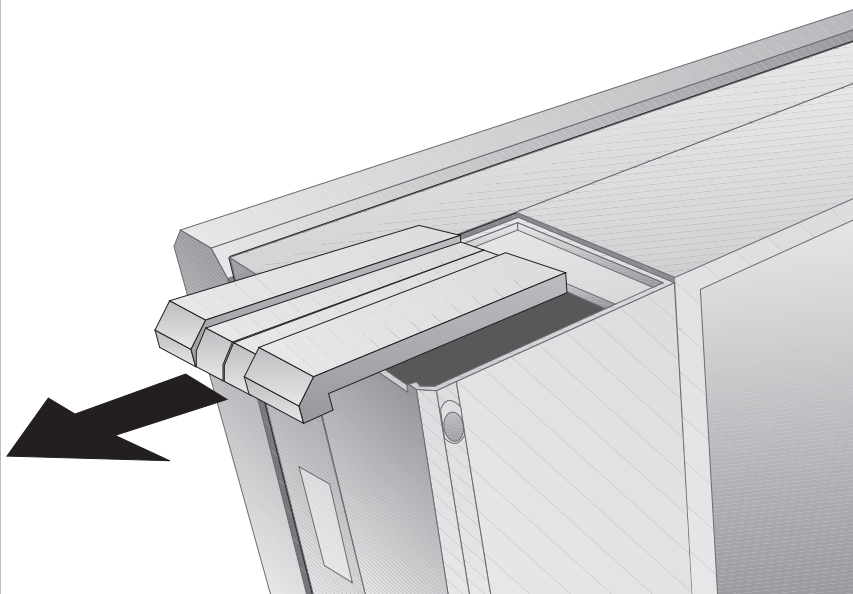

Figure 18-20 Slide the battery release panel to the left to expose the battery pack
3. Set the notebook on its back, as in Figure 18-20.